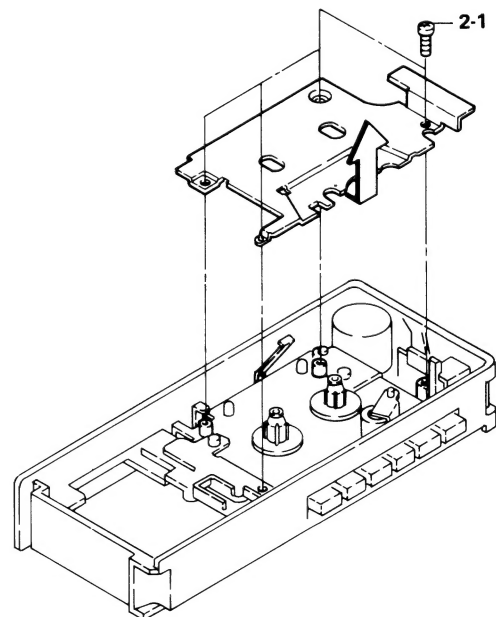

Figure 2-4
2. REMOVAL OF MECHANISM (See Figures 2-4 and 3-1)